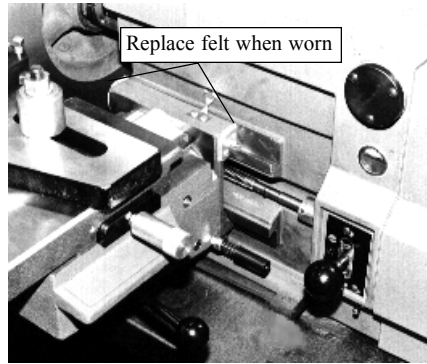

Figure 56
11. Check gib wiper on carriage to make sure that chips are being removed from ways as carriage moves back to prevent any undue wear on the surface of the ways. Replace the felt wipers, if worn. **See Figure 56.**